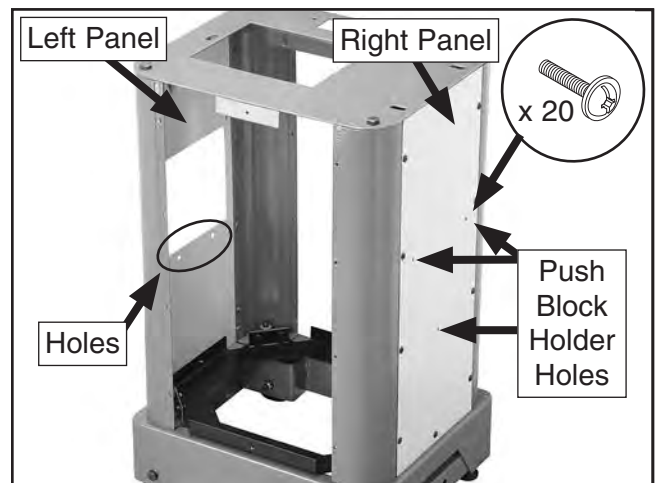

Figure 10. Left and right panels installed.
4. Secure the left and right panels to the cabinet supports with (20) #10-24 x $\frac{3}{8}$ " flange screws, as shown in **Figure 10**.